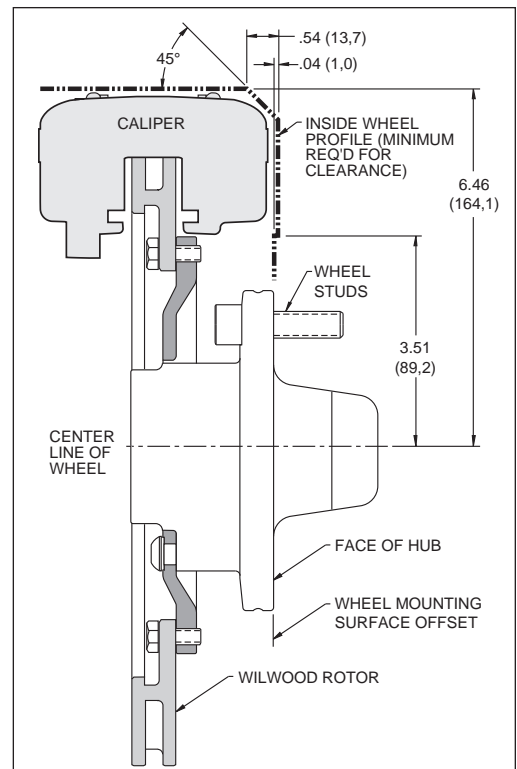

Figure 3. Wheel Clearance Diagram
- Review the wheelclearance diagram (figure 3, page 5) to verify that there is adequate clearance with the wheels you will be using with the installation.